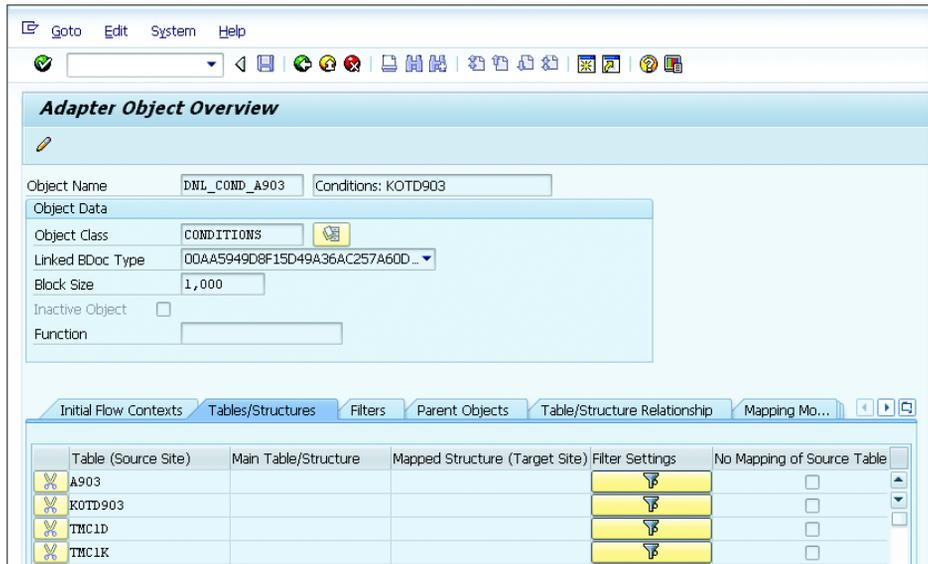

Figure 4.38 Tables Listed in the Condition Object DNL_COND_A903
7. Create the condition table DNL_COND_A903, as shown in Figure 4.38, using Transaction R3AC5.